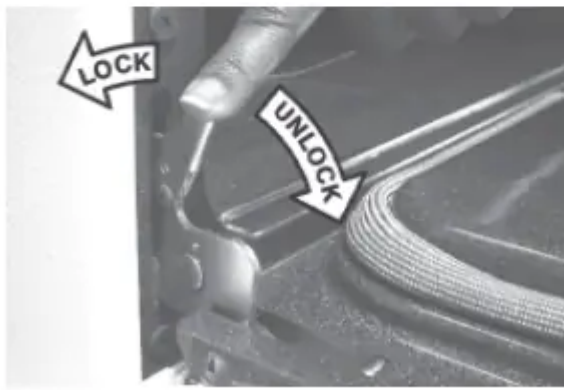

Fig. 2
2. Pull the door hinge locks on both left and right door hinges down from the oven frame completely towards the oven door (See Fig. 2). A tool such as a small flatblade screwdriver may be required.
4. Push the door hinge locks up towards and into the oven frame on both left and right oven door hinges (See Fig. 2) to the locked position.